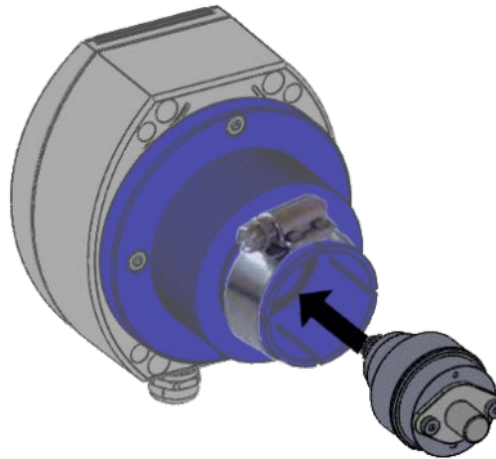

Figure 14 *Insert Sensor block*
**CAUTION: Take care when disassembling to avoid accidental damage to the electrical connector within the sensor head (1).**
1. Remove the sensor head (1) as described in Section 9.1 and transfer to a clean bench.
2. Gently pull the sensing module (6) to ease it out from the sensor head (1).
3. Either discard the zirconia sensing module (6) or return to Michell for a credit (subject to condition): refer to section 9.5 Disposal.
5. Align and install the new zirconia sensing module (6) to the sensor head (1). Gently push to secure the module in place: refer to Figure 14.